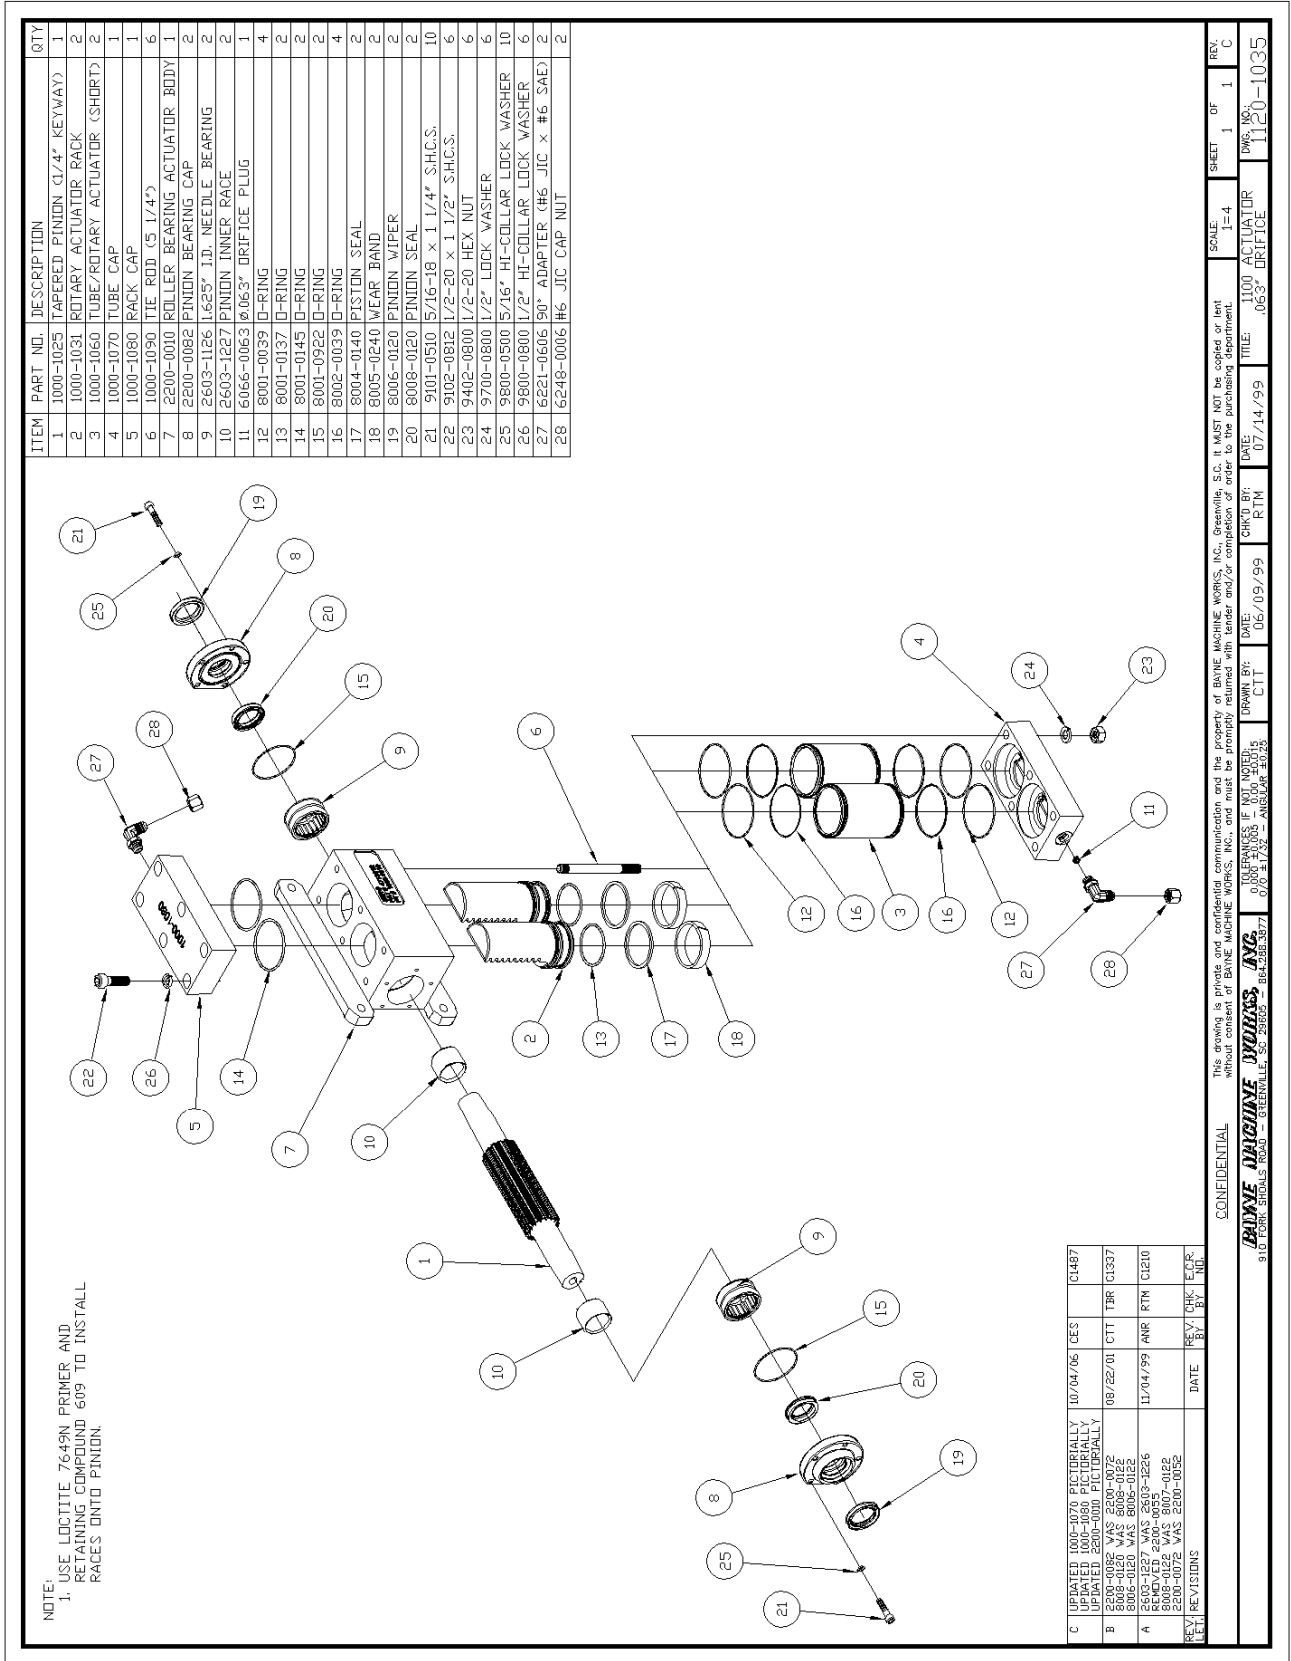

figure A-13
Before starting the assembly of the Rotary Actuator, refer to the exploded parts drawing and parts list (fig. A-13 found at the end of these instructions) to familiarize yourself with the individual components. Prepare a clean surface, in an area free of blowing dust and contaminants in which to assemble the Rotary Actuator. Be sure that all parts are thoroughly clean and dry before starting assembly.
2. Install the tube seal (12) (fig. A-2) and “square” tube seal backup (16) on each end of the actuator tubes (3) (fig. A-13). Be sure that the “square” tube seal backup ring is toward the inside of the tubes at both ends as shown. Press all rings firmly into the grooves. Repeat this procedure for the other tube.
- Coat the head portion of the racks (2) (fig. A-13) with STP Oil Treatment as shown in figure A-5. Install the racks, head portion up with the teeth facing the flanges of the actuator body, into the dual set of bores in the body. Simultaneously slide the racks into the bores so that the racks mesh with the pinion in the same position. Rotate the pinion shaft to engage the racks into the pinion.
7. Coat one end of the actuator tubes (3) (fig. A-13) around the seal area with STP Oil Treatment as shown in figure A-7. Using a rubber mallet, drive the coated end of the tube onto the exposed rack until the tube end seats in the actuator body, making sure that the seals remain in place as the tube enters the counter-bore. Repeat this procedure for the other side.
8. Install the six tie rod studs (6) (fig. A-13) by screwing the short threaded end into the actuator body. Hand tighten only at this time (the torque needed will be applied later in the procedure).
9. Place the tube cap (4) (fig. A-13) on the table. Coat the sides of the two bores in the tube cap with STP Oil Treatment. Install the cap over the tubes and rod studs with the oil port positioned to the left as shown in figure A-13. Using a rubber mallet, tap the tube cap over the tubes until the tubes seat in the cap, making sure that the seals remain in place.
10. Install the hex nuts (23) (fig. A-13) and lock washers (24) on the tie rod studs. Torque the nuts to 50 ft-lb. in the sequence shown in figure A-8.
11. Place the rack cap (5) (fig. A-13) bore side up on the table and coat the edge of each bore with STP Oil Treatment. Install the rack cap seals (14) (fig. A-9) in the rack cap.
12. Reposition the actuator on the table mounting flanges down, and the lower tubes facing away from the assembler. Rotate the pinion shaft to allow 1" of the rack to protrude from the top of the actuator body. Install the rack cap on the actuator body with the oil port positioned to the left hand side of the actuator opposite the bottom oil port located in the tube cap as shown in figure A-13. Attach the rack cap to the actuator body using the socket head bolts (22) (fig. A-13) and lock washers (26). Torque the bolts to 90 ft-lb. in the sequence shown in figure A-10.
14. Re-center the actuator pinion in the actuator body by tapping on one end of the shaft with a rubber mallet. Install the roller bearing (10) (fig. A-13), over the pinion shaft and inner race, and into the actuator body. Repeat this procedure for the other bearing.
17. Wrap masking tape or electrical tape around the pinion to cover the edges at the keyway. Slide the bearing cap assembly over the pinion shaft with the bearing cap seal facing toward the actuator body and the flat surface of the flange shown in figure A-16 facing toward the actuator mounting flanges. Press against the bearing cap until the shoulder seats against the actuator body, making sure that the seals remain in place. Install the bearing cap bolts (21) (fig. A-13) and lock washers (25). Hand tighten only at this time. Repeat this procedure for other bearing cap.
19. Install the 90° fitting (27) (fig. A-13) into the oil port on the side of the rack cap (5) and tighten.
20. Install the orifice plug (11) (fig. A-13) into the oil port on the side of the tube cap (4), and install the 90° fitting (27) into the oil port over the orifice plug as shown in figure A-13 and tighten.
21. Install the cap nuts (28) (fig. A-13) onto the open fittings to prevent contamination of the unit until the hoses are installed.